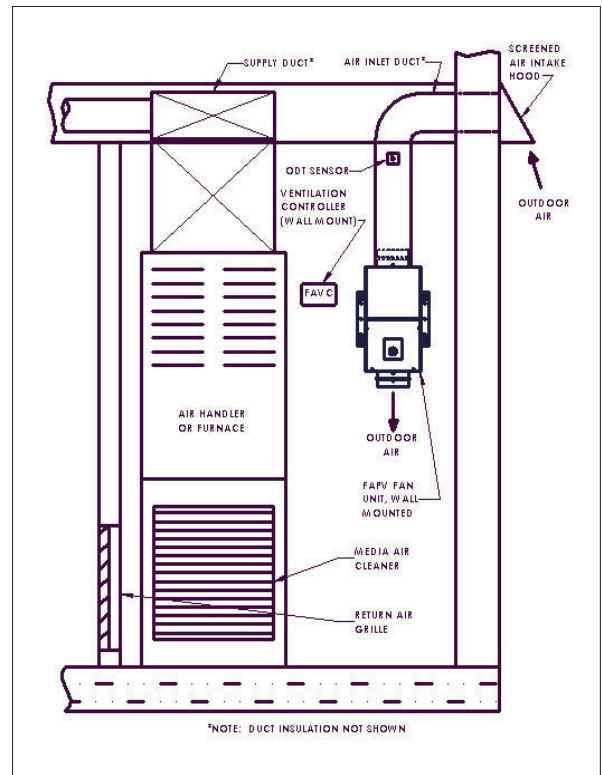
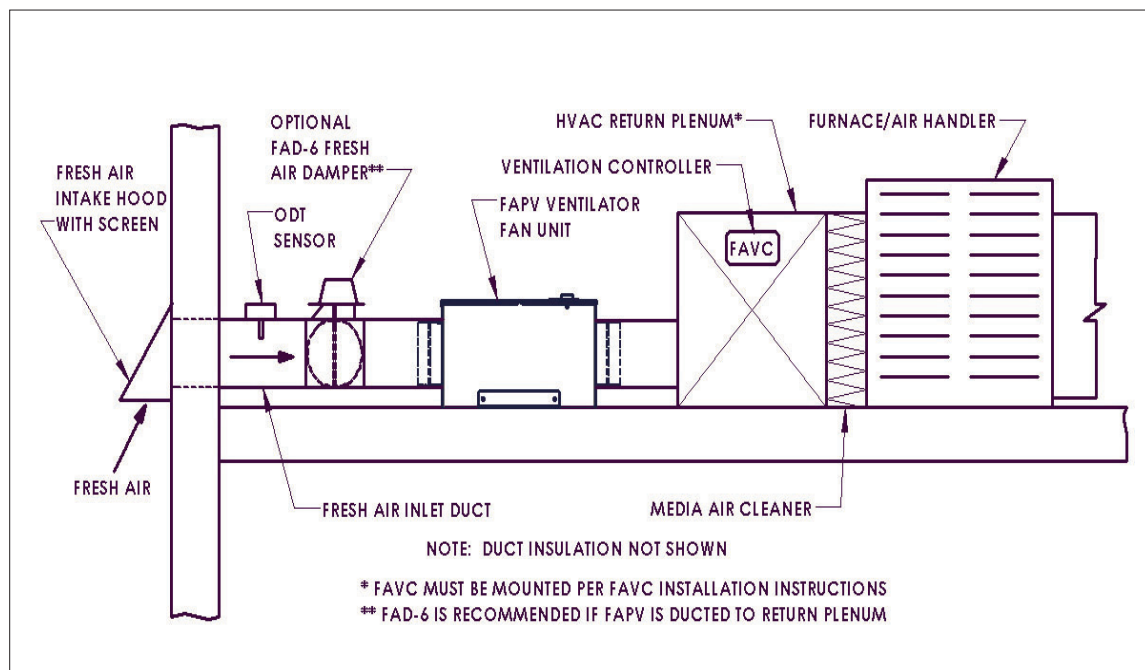

Figure 4 -
Figure 5 - HVAC PLENUM TYPICAL INSTALLATION
**NOTE:** if a ventilation controller having an outdoor air temperature sensor that may be mounted on the inlet air duct is to be used (such as Field Controls model FAVC), follow the manufacturer's instructions to mount the outdoor temperature sensor on the inlet air duct, as close to the intake air hood as is reasonably convenient, see Figures 4 and 5. **DO NOT** mount the sensor on the duct connected to the outlet of the FAPV ventilator fan unit.
3. Taking care to avoid damage or obstruction to the back draft damper, connect 6" insulated duct (or larger if an increaser is used) to the outlet collar of the FAPV fan unit and to the supply or return side of the HVAC system, using methods described in the Air Inlet (Intake Hood) Installation section (see Figure 5) If the furnace or fan center is installed in a mechanical closet without a return side plenum or duct, the outlet of the duct or FAPV fan unit may open directly into the mechanical closet space if allowed by code, see Figure 4.